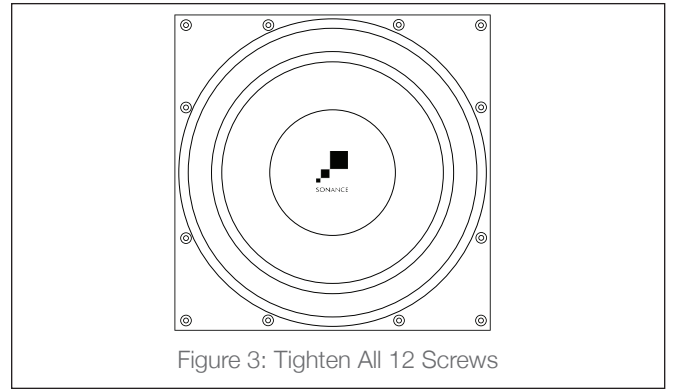

Figure 3: Tighten All 12 Screws
4. Tighten all twelve screws evenly to minimize any air leakage that could occur (see Figure 3).